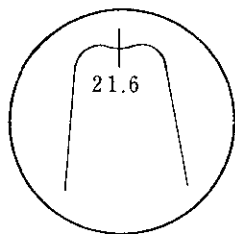

Figure 9
(1) RF Amplifier
(2) First IF Amplifier
- (b) Set the frequency of the sweep generator to 21.6 MHz, and apply this output. Adjust T_{101} until the scope pattern indicated in Figure 9 is obtained.